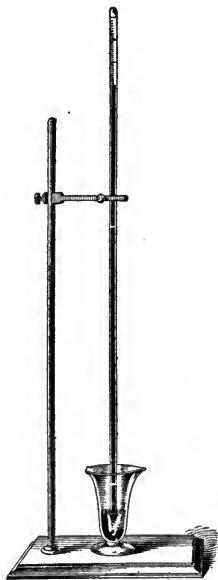

FIG. 15.
**43.** Since air has weight, it is evident that the enormous quantity of air that constitutes the atmosphere must exert a considerable pressure on the earth. This is easily proved by taking a long glass tube closed at one end and filling it with mercury. If the finger be placed over the open end so as to keep the mercury from running out and the tube inverted and placed in a cup of mercury, as shown in Fig. 15, the mercury will fall, then rise, and after a few oscillations will come to rest at a height above the top of the mercury in the cup equal to about 30 inches at sea level.
**48.** If the tube of Fig. 15 had been filled with a liquid lighter than mercury, the height of the column required to balance the atmospheric pressure would be greater. The
**49. The Barometer.**—As is well known, the atmosphere does not exert exactly the same pressure at all times; the pressure varies with conditions. As the height of the mercury in the glass tube of Fig. 15 depends chiefly on the atmospheric pressure, it is evident that an instrument constructed on this principle will indicate the varying pressure by the height of the column. Such an instrument is called a **mercurial barometer**.
**55. Tension of Gases.**—In Fig. 15, the space above the column of mercury was said to be a vacuum, and it was also stated that if any gas or air were present, it would expand and its tension would force the column of mercury downwards. If sufficient gas be admitted to cause the mercury to stand at 15 inches, the tension of the gas is evidently  $\frac{14.7}{2} = 7.35$  pounds per square inch, since the pressure of the outside air, 14.7 pounds per square inch, now balances only 15 instead of 30 inches of mercury; that is, it balances only one-half as much as it would if there were no gas in the tube; therefore, the pressure (tension) of the gas in the tube is 7.35 pounds. If more gas be forced into the tube until the top of the mercurial column is just level with the mercury in the cup, the gas in the tube will then have a tension equal to the outside pressure of the atmosphere. Suppose that the bottom of the tube is fitted with a piston, and that the total length of the inside of the tube is 36 inches. If the piston be shoved upwards so that the space occupied by the gas is 18 inches long instead of 36 inches, the temperature remaining the same as before, it will be found that the tension of the gas within the tube is 29.4 pounds. It will be noticed that the volume occupied by the gas is only half that in the tube before the piston was moved, while the pressure is twice as great, since  $14.7 \times 2 = 29.4$  pounds. If the piston be shoved up, so that the space occupied by the gas is only 9 inches instead of 18 inches, the temperature still remaining the same, the pressure will be found to be 58.8 pounds per square inch. The volume has again been reduced one-half and the pressure increased twofold, since  $29.4 \times 2 = 58.8$  pounds. The space now occupied by the gas is 9 inches long, whereas,